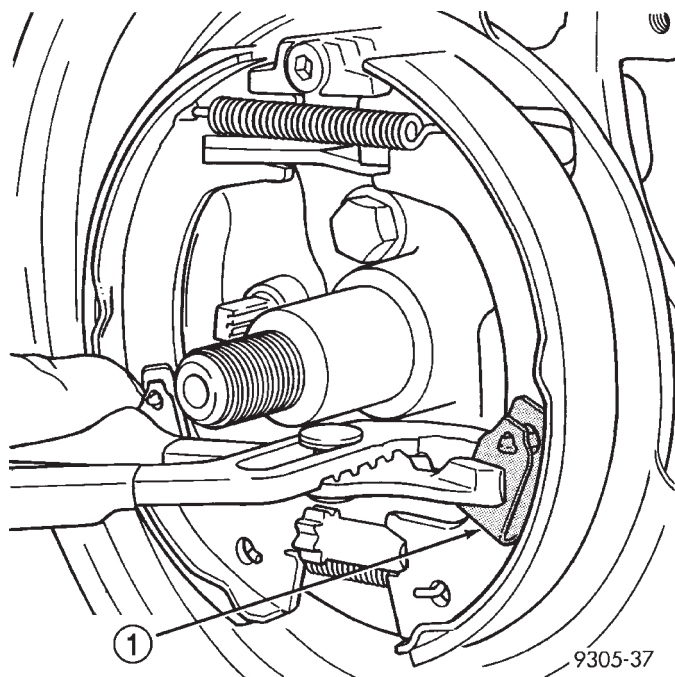

Fig. 150 Rear Park Brake Shoe Hold-Down Clip
(1) Remove disc brake caliper from adapter and rotor (See Disc Brake Shoe Removal).
(2) Remove rotor from hub/bearing.
(3) Remove dust cap from hub/bearing.
(4) Remove hub/bearing rear retaining nut and washer.
(5) Remove hub/bearing from knuckle.
(6) Remove hold down clip from rear park brake shoe (Fig. 150).
- (6) Install hold down clip on rear park brake shoe (Fig. 150).
- (7) Adjust park brake shoes to an outside diameter of 171 mm (6.75 inch).
- (8) Install hub/bearing on knuckle.
- (9) Install **A NEW** hub/bearing retaining nut. Tighten the hub/ bearing retaining nut to a torque of 250 N·m (185 ft. lbs.).
- (10) Install dust cap on hub/bearing.
- (11) Install rotor.